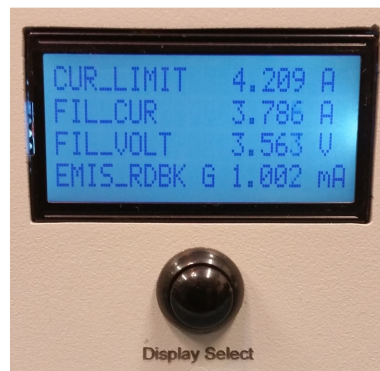

Figure 7. Filament Diagnostic Display Mode
5. Set the Display Mode Switch to select the Filament Diagnostic display mode. See Figure 7. Since an initial value of 0 volts for the current limit setpoint will by definition prevent the filament from heating up to generate electrons, this is a safe starting condition.